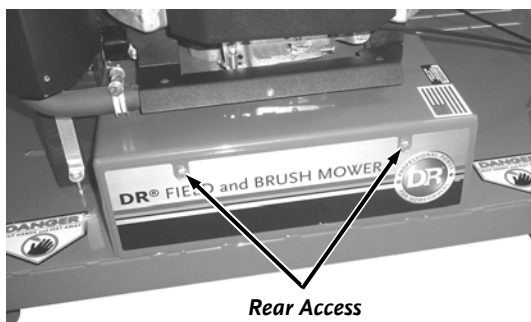

Figure 21
9. Using a 7/16" Wrench or Socket, remove the two Bolts and Lock Washers that retain the Rear Access Panel on the Mower (**Figure 21**) and remove the Panel.